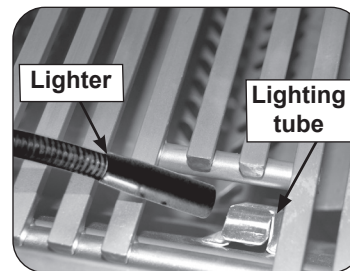
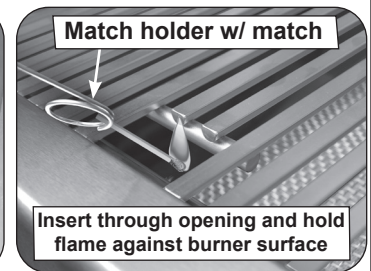

Fig. 35-2 Manual lighting via lighting tube
Fig. 35-3 Manual lighting via match holder
**CAUTION:** Always wait five (5) minutes for gas to clear after any unsuccessful lighting attempt.
2. Insert either a burning long-barrel butane lighter or a burning long-stem match through the cooking grid opening to the top of the lighting tube (see Fig. 35-2). For backburners or infrared burners, hold the flame against the surface of the backburner/infrared burner. Grills equipped with an infrared burner include a wire extension match holder (attached to drip tray) to assist with manual lighting (see Fig. 35-3).
4. If the burner does not light within five (5) seconds of turning the control knob, **immediately depress the knob and turn the valve to OFF**. **WAIT FIVE (5) MINUTES** before repeating steps 2 through 4 of the **MANUAL LIGHTING** instructions.